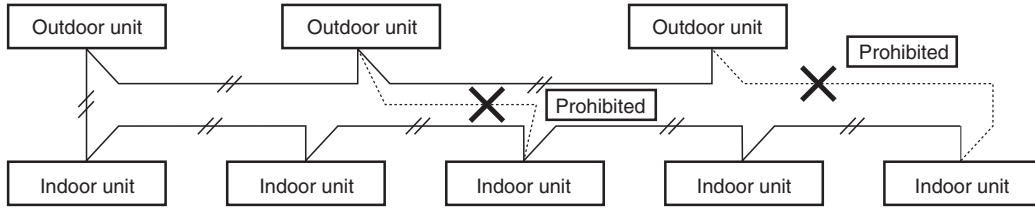

Fig. 4-1
- Do not install the inter-unit control wiring in a way that forms a loop. (Fig. 4-1)